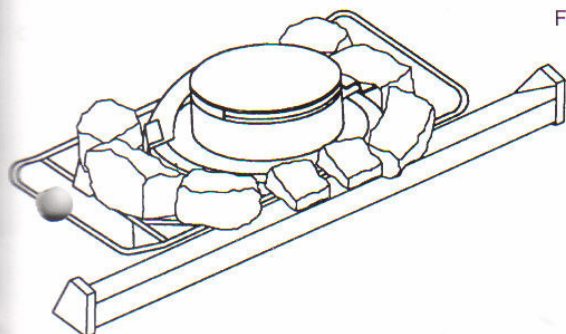

Fig.38
1. Place 6 full coals and 2 small coals around the burner as shown in fig.38